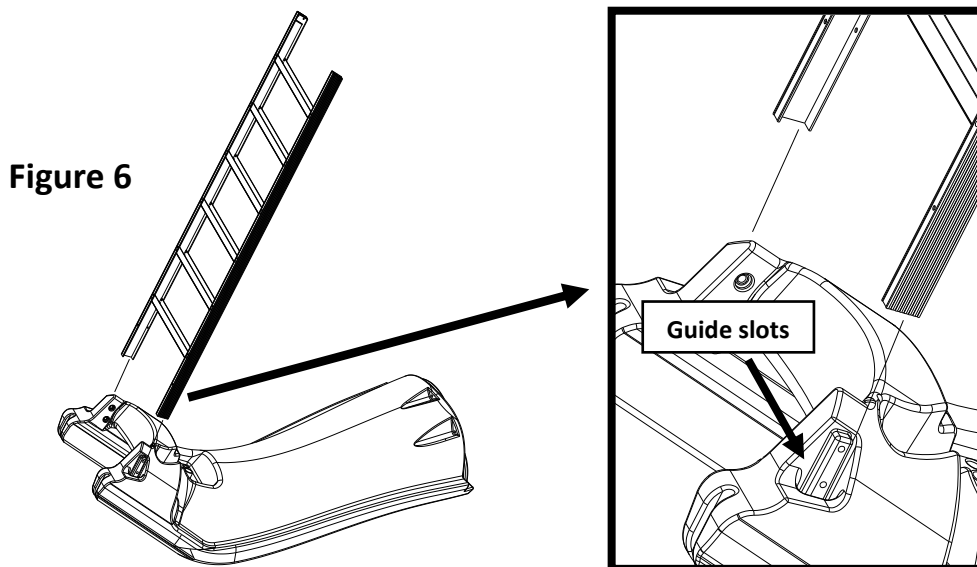

Figure 6
- 3) Insert the top of the slide ladder all the way into the two sockets in the slide. Use clamps to temporarily hold the ladder in place while the slide is being turned upright. See Figure 6.